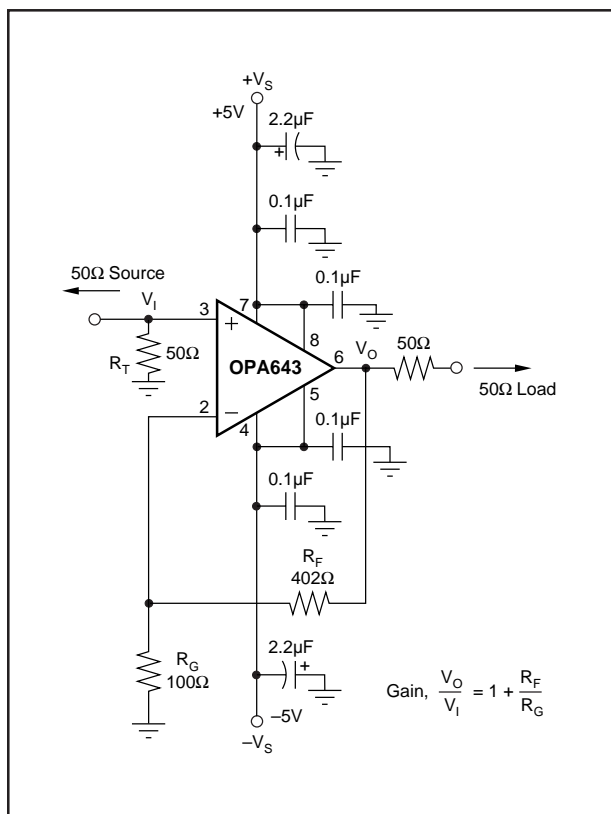

FIGURE 1. Gain of +5, High Frequency Application and Characterization Circuit (P or U Package).
The OPA643's combination of speed and dynamic range is easily achieved in a wide variety of application circuits, providing that simple guidelines common to all high speed amplifiers are observed. For example, good power supply decoupling, as shown in Figure 1, is essential to achieve the lowest possible harmonic distortion and smooth frequency response. Careful PC board layout and component selection will maximize the performance of the OPA643 in all applications, as discussed in the remaining sections of this data sheet.
Figure 1 shows the gain of +5 configuration used as the basis for most of the Typical Performance Curves. Most of the curves were characterized using signal sources with 50Ω driving impedance, and with measurement equipment presenting 50Ω load impedance. In Figure 1, the 50Ω shunt resistor at the  $V_I$  terminal matches the source impedance of the test generator, while the 50Ω series resistor at the  $V_O$  terminal provides a matching resistor for the measurement equipment load. Generally, data sheet specifications refer to the voltage swing at the output pin ( $V_O$  in Figure 1). The total 100Ω load from the series and shunt matching resistors, combined with the 502Ω total feedback network load, presents the OPA643 with an effective output load of approximately 83Ω.
To deliver the lowest possible distortion using the 8-pin SO-8 or DIP package, additional 0.1μF power supply decoupling capacitors on pins 5 and 8 are required. These are shown in Figure 1. Although pins 5 and 8 are internally connected to pins 4 and 7 respectively (the standard supply pins for 8-pin op amps), the additional capacitors help to decouple the package lead inductances and decrease the second-harmonic distortion for a 5MHz fundamental by approximately 4dB. The much shorter bond wires and supply leads of the SOT23-5 package give the best distortion performance while requiring only two power supply connections.
Since the OPA643 is a voltage feedback op amp, a wide range of resistor values may be used for the feedback and gain setting resistors ( $R_F$  and  $R_G$  in Figure 1). The primary limits to these values are set by dynamic range (noise and distortion) and parasitic capacitive considerations. Usually, the feedback resistor value should be between 200Ω and 1kΩ. Below 200Ω, the feedback network will present additional output loading which can degrade the harmonic distortion performance of the OPA643. Above 1kΩ, the typical parasitic capacitance (approximately 0.2pF) across the feedback resistor may cause unintentional band-limiting in the amplifier response.
A good rule of thumb is to target the parallel combination of  $R_F$  and  $R_G$  (Figure 1) to be less than about 200Ω. The combined impedance  $R_F || R_G$  interacts with the inverting input capacitance, placing an additional pole in the feedback network and thus a zero in the forward response. Assuming a 3pF total parasitic on the inverting node, holding  $R_F || R_G < 200\Omega$  will keep this pole above 250MHz. By itself, this constraint implies that the feedback resistor  $R_F$  can increase to several kΩ at high gains. This is acceptable as long as the pole formed by  $R_F$  and any parasitic capacitance appearing in parallel with it is kept out of the frequency range of interest. The exception to this is in wideband transimpedance applications as described earlier. There, a feedback pole is used to compensate for the zero formed by the input capacitance and the feedback resistor.
Generally, until the fundamental signal reaches very high frequencies or powers, the second harmonic will dominate the distortion with negligible third harmonic component. Focusing then on the second harmonic, increasing the load impedance improves distortion directly. Remember that the total load includes the feedback network—in the non-inverting configuration this is sum of  $R_F + R_G$ , while in the inverting configuration it is only  $R_F$  (Figure 1). Larger output voltage swings lead directly to increased harmonic distortion. A 6dB increase in output voltage swing will generally increase the second harmonic by 12dB and the third harmonic by 18dB. Higher signal gain settings will also increase the second harmonic distortion. A 6dB increase in voltage gain will raise the second and third harmonics by
Evaluating these two equations for the OPA643 component values shown in Figure 1 will give a total output spot noise voltage of 13.3nV/√Hz and a total equivalent input spot noise voltage of 2.7nV/√Hz.
Narrowband communications systems are more commonly concerned with the Noise Figure (NF) for the amplifier. The total input referred voltage noise expression (Equation 2 above), may be used to calculate the noise figure. Equation 3 shows the noise figure expression using the  $E_N$  of Equation 2 for the non-inverting configuration where the input termination resistor  $R_T$  has been set to match the 50Ω source impedance (as shown in Figure 1).
Evaluating Equation 3 for the circuit of Figure 1 gives a Noise Figure = 15.9dB. Input transformer coupling can be used to reduce this noise figure. A broadband pulse transformer can provide both a noiseless voltage gain and a more optimum source impedance to minimize the noise figure. Figure 9 shows an example built from the circuit of Figure 1, in which the transformer turns ratio has been set to the closest integer for minimum noise figure. This optimum turns ratio is calculated by:
The OPA643 provides excellent DC signal accuracy due to the combination of high open-loop gain, high common-mode rejection, high power supply rejection, low input offset voltage and low bias current offset errors. The high grade (B) version of any package type provides less than 1.5mV input offset voltage. To take full advantage of this low input offset voltage, careful attention to input bias current cancellation is also required. The high speed input stage for the OPA643 has a relatively high input bias current (19μA typical into each input pin) but with a very close match between the two input currents—typically 100nA input offset current. The total output offset voltage may be considerably reduced by matching the source resistances which appear at the two inputs. For example, one way to include bias current cancellation in the circuit of Figure 1 would be to insert a 55Ω series resistor into the non-inverting input after the 50Ω terminating resistor,  $R_T$ . When the 50Ω source resistor is DC coupled, this will increase the source resistance for the non-inverting input bias current to 80Ω. Since this is now equal to the resistance appearing at inverting input ( $R_F \parallel R_G$ ), the circuit will cancel the gains for the bias currents to the output, leaving only the offset current times the feedback resistor as a residual DC error term at the output. Using a 402Ω feedback resistor, this output error will now be less than  $3\mu A \cdot 402\Omega = 1.2\text{mV}$  over the full temperature range.
As a worst case example, compute the maximum  $T_J$  using an OPA643N (SOT23-5 package) in the circuit of Figure 1 operating at the maximum specified ambient temperature of  $+85^\circ\text{C}$ .  $P_D = 10\text{V} \cdot 26\text{mA} + 5^2 / (4 \cdot (100\Omega \parallel 502\Omega)) = 335\text{mW}$ . Maximum  $T_J = +85^\circ\text{C} + (0.335\text{W} \cdot 150^\circ\text{C/W}) = 135^\circ\text{C}$ .